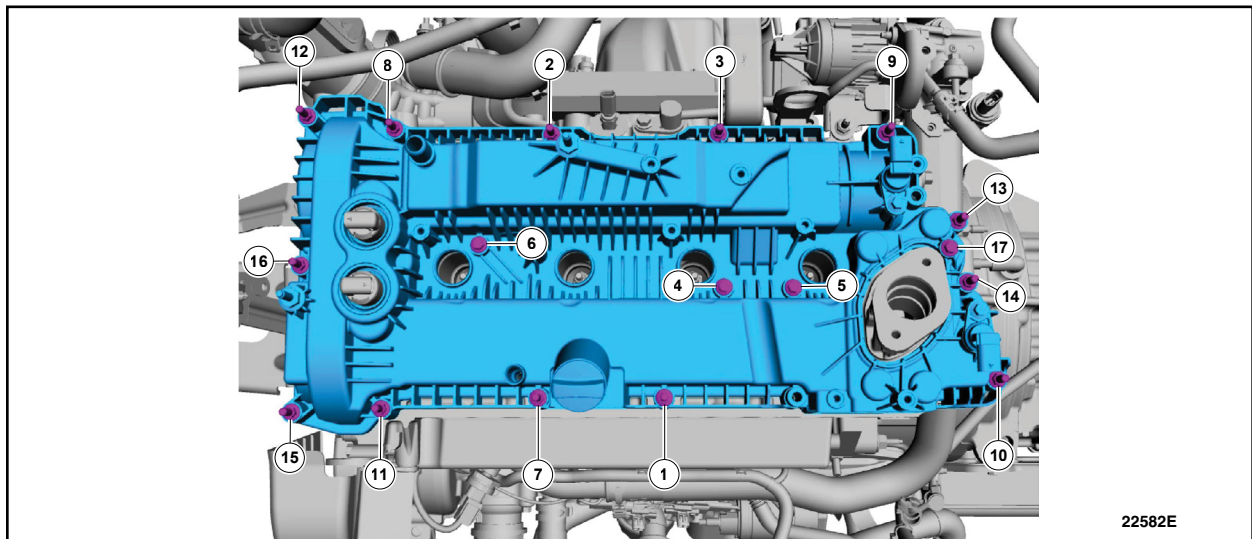

FIGURE 5
- Yes - Torque all the valve cover fasteners to specifications 97 lb. in (11 Nm) in the sequence shown. See Figure 5. Re-assemble the vehicle. This completes the recall.